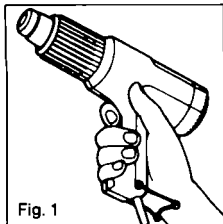

Fig. 1
When using the HL 1800 E as a hand-held tool (Fig. 1), grip it by the handle (2) like a hot melt glue gun or a power drill; thus you can operate the two-stage switch (3) with your forefinger.